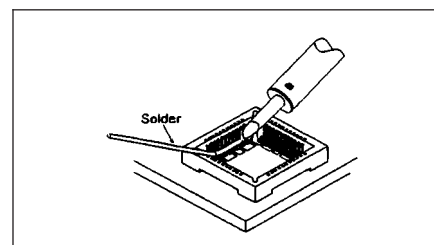

Figure 1 Tack and Wrap
5. Tack solder to an inside corner lead using soldering handpiece with chisel tip installed. Wrap solder around leads inside component. Terminate solder at last lead using soldering handpiece. (See Figure 1.)